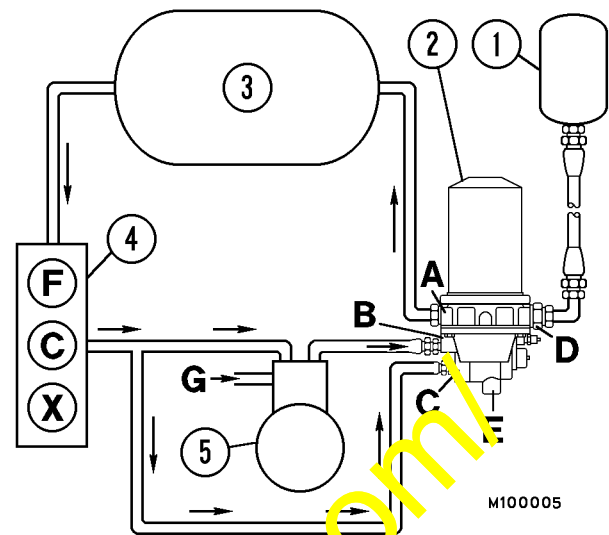

Figure 8. Air Dryer Operation
The air dryer (2, Figure 8) is a desiccant style air dryer, mounted vertically between the air compressor and the supply tank. The air dryer receives hot compressed air, which it cools, dries and filters before sending it to the supply tank, reducing the build up of dirt and moisture in the vehicle air system. The system incorporates a separate, isolated purge tank which incorporates 460 in³ (7539.4 cm³) of purge volume.
Hot, compressed air enters the air dryer (2, Figure 8) through the inlet port (B). As the hot air enters the dryer, the air expands, oil and water vapor condense, and accumulate in the sump. The air passes through three (3) filters and a cloth bag that removes carbon and other contaminants. Air vapor is absorbed by the desiccant as air travels through the desiccant bed housed in the cartridge. The clean, dry air is then directed to the vehicle air system through the outlet port (A) and simultaneously to the purge tank through the purge port (D).